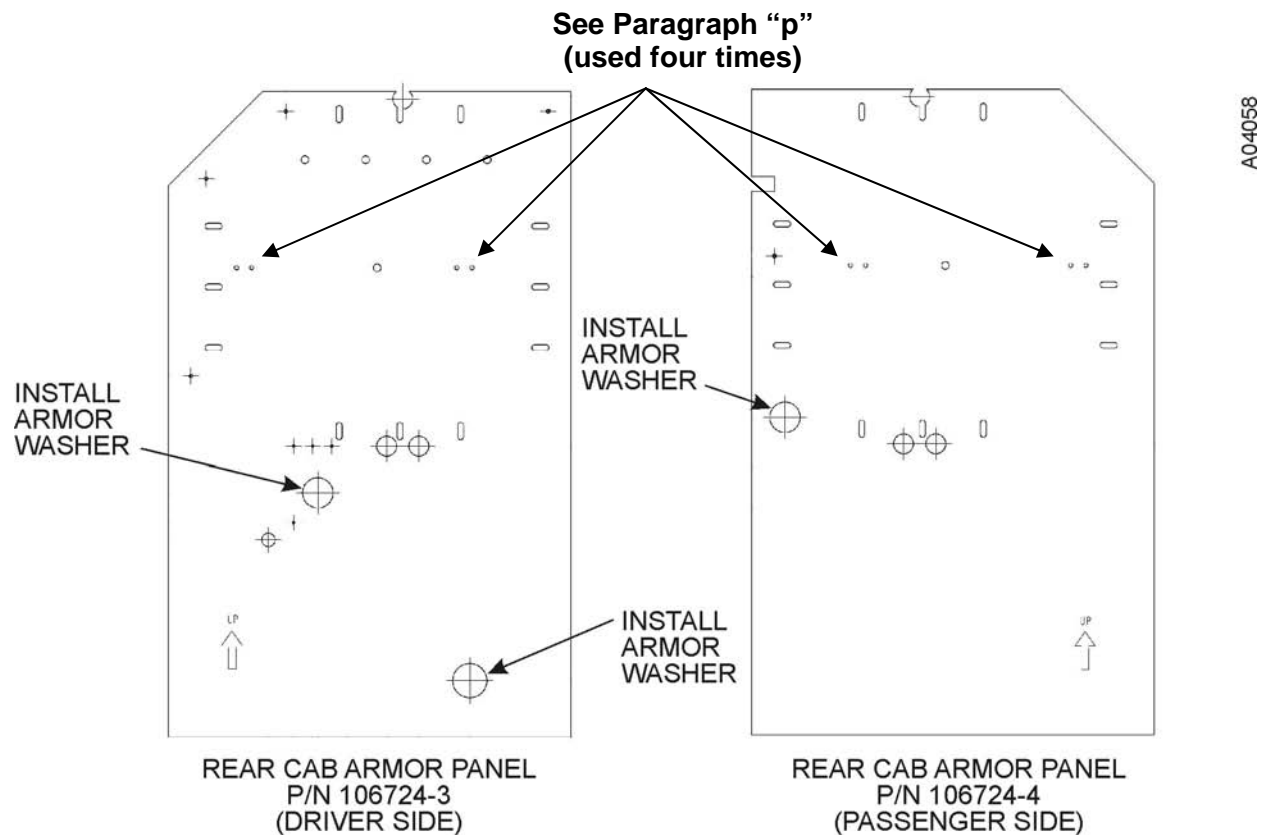

Figure 29a. Armored washer locations.
See Figure 29a and Paragraph “p” prior to installation.
- m. Drill a 1/4-in. Ø hole two places (see Figure 29a) (centered) through the 2.000 and 2.250 Ø holes in the armor panel into the cab.
- n. Install bolt (1/4 – 20 x 1.250), armored washer (P/N 111403-1), washer (1/4-in. ID), and self-locking nut (1/4 – 20), with the fender washer on the inside of the cab, in two places (see Figure 29a). If the sound-damping material is in the way, remove it from around the hole.
- o. Repeat Steps “a” through “n” for the passenger-side Rear Cab Armor Panel (P/N 106724-4), except only one armored washer installation is required (see Figure 29a).
- p. Prior to installation, insert four bolts (1/4 – 20 x 1.000), eight washers (1/4 ID), and four nuts (1/4 -20) through the four optional energy-absorbing seat mounting holes on each armor panel (see Figure 29a for locations). Ensure that the nut is on the outboard side.